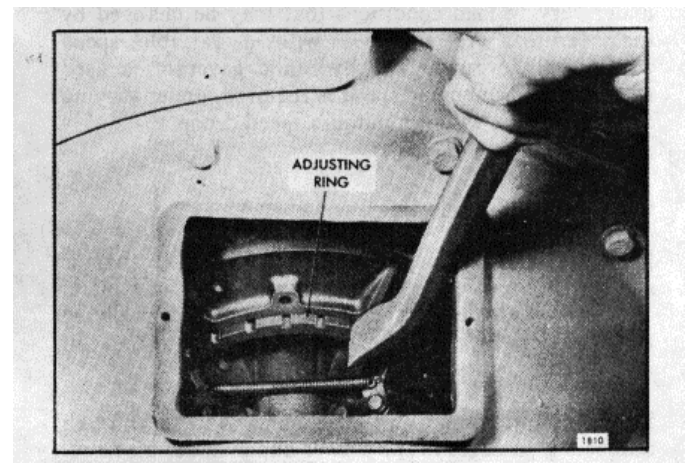
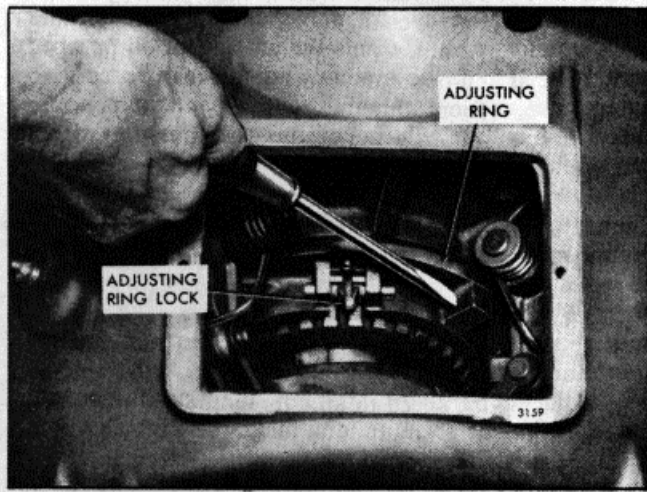
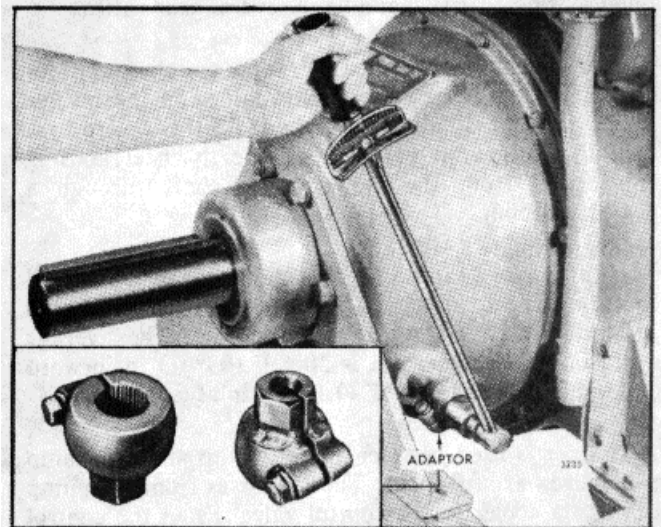

Fig. 10. - Power Take-Off Showing Typical 11-1/2" Diameter Clutch Adjustment Ring
Fig. 11. - Power Takeoff Assembly Showing 14" Diameter Clutch Adjusting Ring shaft to prevent the
Fig. 13. - Checking Power Take-Off Clutch Adjustment with Torque Wrench and Adaptor
4. On the 11-1/2" diameter clutch, remove the clutch adjusting ring spring lock screw and lock from the inner clutch pressure plate and adjusting ring. Then, while holding the clutch drive shaft to prevent the clutch from turning, turn the clutch adjusting ring counterclockwise (Fig. 10). Tighten the clutch until the desired pressure on the outer end of the hand lever, or at the clutch release shaft (Fig. 13), is obtained as shown in
clutch from turning, turn the clutch adjusting ring clockwise (Fig. 11). Tighten the clutch until the desired pressure on the outer end of the hand lever, or at the clutch release shaft (Fig. 13) is obtained as shown in Table 1.
accurate method of checking the clutch adjustment is with a torque wrench (Fig. 13).
To fabricate an adaptor, saw the serrated end off of a clutch hand lever and weld a 1-1/8" nut (across the hex) on it as shown in Fig. 13. Then, saw a slot through the nut.